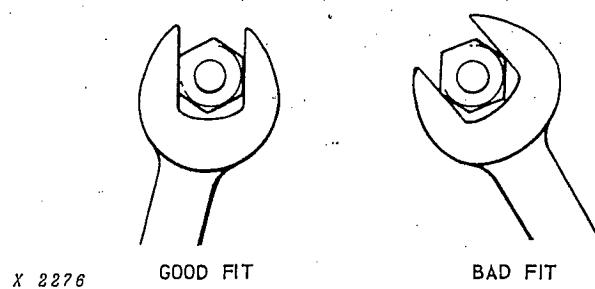

Fig. 22 — Correct Fit Of Wrench On Nut Is Important
*Be sure the wrench correctly fits the nut or bolt head* (Fig. 22).